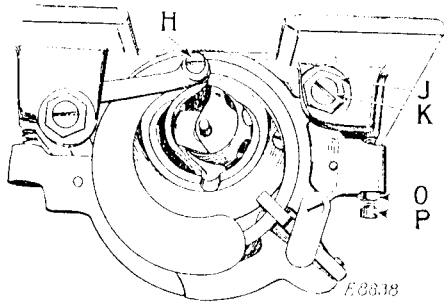

FIG. 15. ADJUSTMENT FOR RAISING AND LOWERING THE FEED WHEEL.
To remove the wheel feed from Machines 15-33 and 15-36, take out screw (H, Fig. 15) and loosen lock nut (J, Fig. 15). Turn screw centre (K, Fig. 15) to the left until the feed assembly can be removed from the machine.
position and fasten by turning screw centre (K, Fig. 15) to the right. Tighten lock nut (J) and replace screw (H).
The feed wheel should be set so that about the full depth of the teeth projects through the slot in the throat plate. To raise or lower the feed wheel, loosen the lock nut (O, Fig. 15) and lower the roller presser. Turn screw (P, Fig. 15) to the right or left until the feed wheel is at the required height, then tighten the lock nut (O).